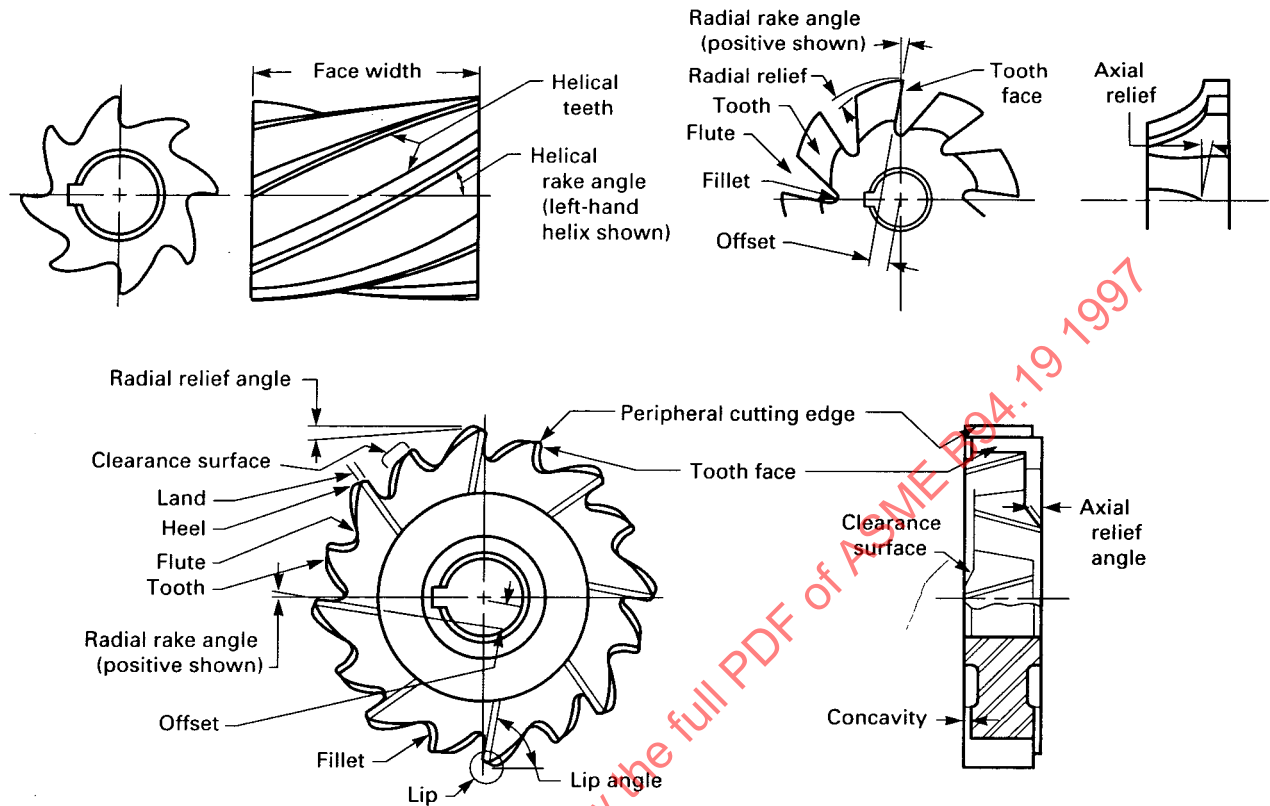

FIG. 1 MILLING CUTTER TERMS
*milling cutter:* a rotary cutting tool provided with one or more cutting elements called teeth, which intermittently engage the workpiece and remove material by relative movement of the workpiece and cutter (see Fig. 1).